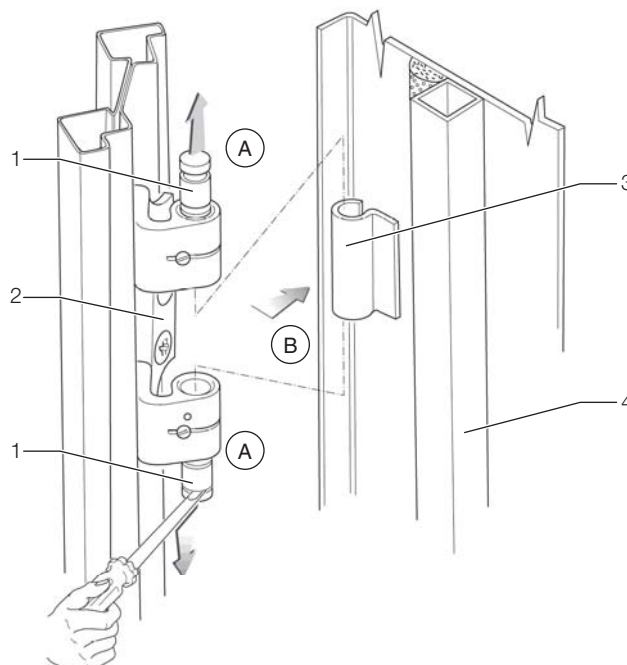

Fig. 21: Door hinge – dismantling
- Loosen the hinge bolts from the four door hinges by raising them with an appropriate tool (e.g. screwdriver). Pull the bolts out of the hinge bolt holding fixture up to the catch (see Fig. 21, Step A). Begin with the lowest door hinge.
- Remove the server enclosure door (see Fig. 21, Step B).